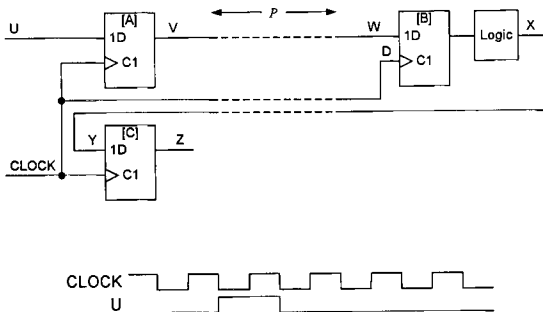

Figure 2
2. *Figure 2* shows a circuit containing three flipflops and a logic block. As indicated on the diagram, flipflop [B] is separated from the other two by a long cable with a propagation delay of P .